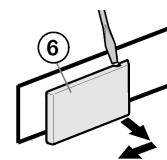

Fig. 6
- Loosen cover that is on the hinge side Fig. 6 (6) using a screwdriver and remove by pulling outwards.